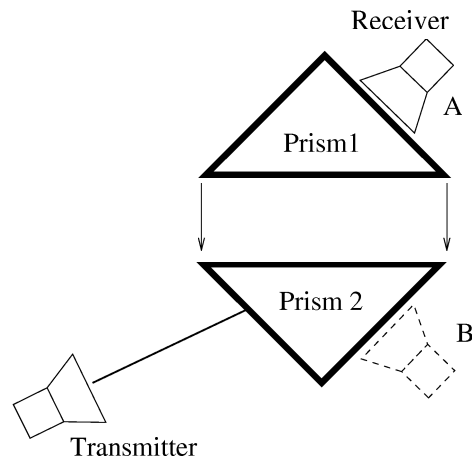

Figure 8: Frustrated total internal reflection.
16. Dismantle the apparatus used above. Take the transmitter and receiver units off their metal stands. Arrange the transmitter, receiver and a prism on the table top such that total internal reflection is occurring. Place the transmitter about 20 cm away from the prism. Check that total internal reflection is occurring by bringing the receiver right up against the hypotenuse face of the prism. With the second prism, place the receiver hard up against one of the (equal length) faces. Move the receiver and the second prism as one slowly towards the first prism, as in Figure 8. Keep the hypotenuse faces of the prisms parallel. Monitor the meter reading. Continue until the hypotenuse faces nearly contact. What happens? Explain your observations.
17. Arrange the prisms such that the meter reading with the meter in position A is roughly equal with that as in position B, see Figure 8.